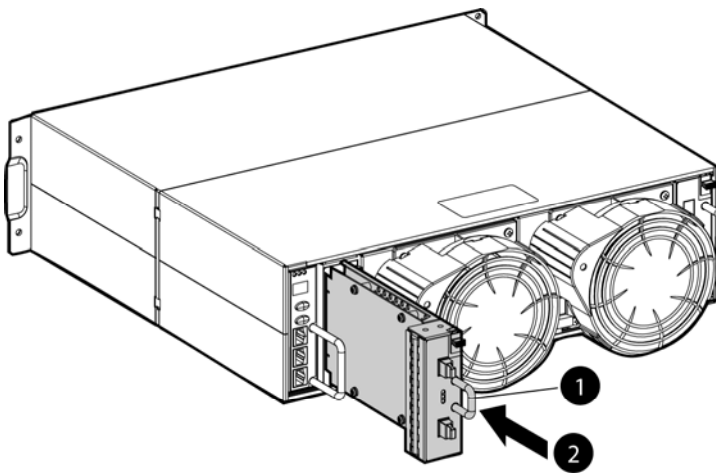

Figure 53 Installing an I/O module
1. Grasp the I/O module by the handle (1, Figure 53), center the module in the enclosure opening and slowly slide it into the enclosure (2, Figure 53). Make sure the module is not tilted up or down or toward either side, allowing the enclosure guides to properly position the module.